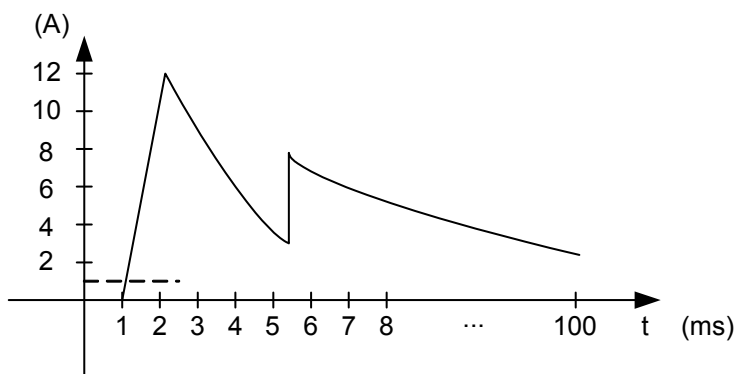

Figure 4-38 Measuring Inrush Current (1)
Users can use the following setting to measure the Inrush current (1) in Figure 4-38.
From Figure 4-38 it can tell that the current exceeds the trigger current (1A) around 1.1ms and since the time delayed is 0 second, the 66202 Power Meter starts to measure the Inrush current and the maximum Inrush current can be measured is 12A approximately.